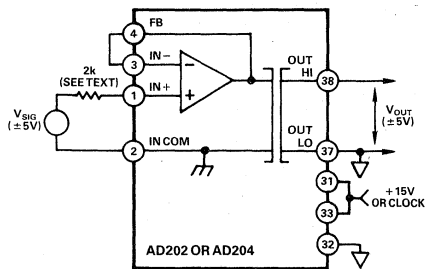

Figure 5. Basic Unity-Gain Application
**Input Configurations.** The AD202 and AD204 have been designed to be very easy to use in a wide range of applications. The basic connection for standard unity gain applications, useful for signals up to  $\pm 5V$ , is shown in Figure 5; some of the possible variations are described below. When smaller signals must be
The “noninverting” circuit of Figures 5 and 6 can also be used to advantage when a signal inversion is needed: just interchange either the input leads or the output leads to get inversion. This approach retains the high input resistance of the “noninverting” circuit, and at unity gain no gain-setting resistors are needed.